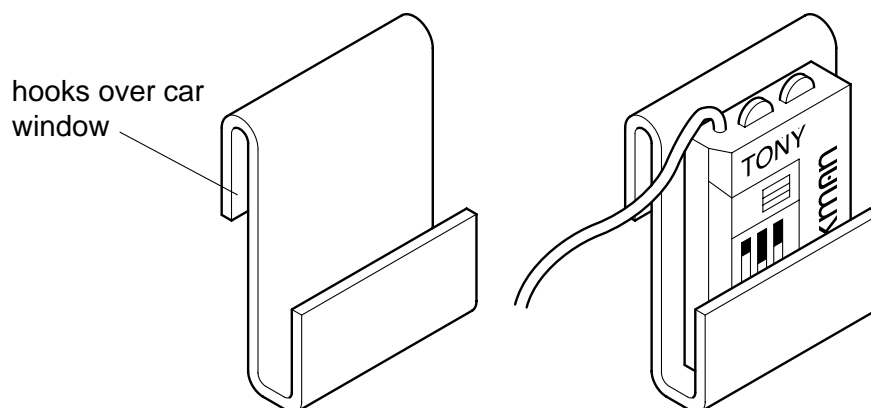

Fig. 2
- 2 Passengers travelling in the back of cars often listen to a personal stereo. Fig. 2 shows a design for a device which hooks over a car window and holds a personal stereo.